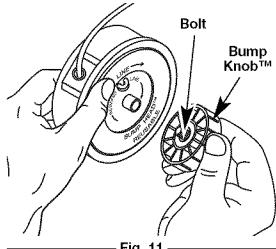

Fig. 11
1. Hold the outer spool with one hand and unscrew the Bump Knob™ counterclockwise (Fig. 11). Inspect the bolt inside the Bump Knob to make sure it moves freely. Replace the Bump Knob if damaged.
1. Hold the outer spool with one hand and unscrew the bump knob counter-clockwise (Fig. 11). Inspect the bolt inside the bump knob to make sure it moves freely. Replace the bump knob if damaged.